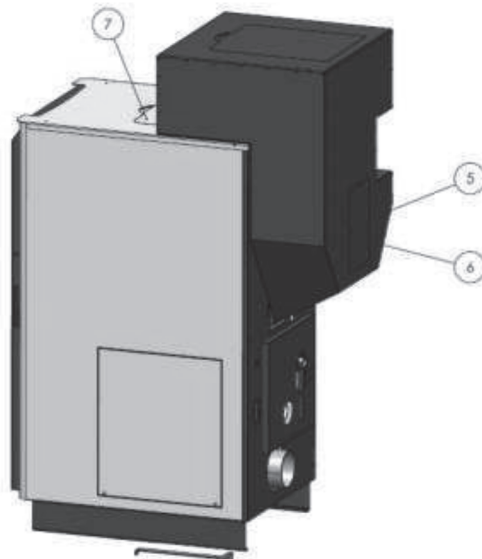

Fig 3.
- Put down the turbulator lever cover 7(Fig. 3)